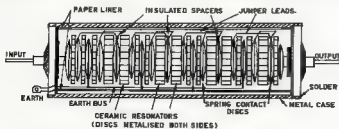

FIG. 1. CERAMIC LADDER FILTER - 17 ELEMENT.
A recent article in the R.S.G.B. "Bulletin" for July 1966 describes a transistor s.s.b. exciter using a ceramic disc filter with characteristics at the 6/60 db. points similar to the popular mechanical filters from U.S.A. and Japan. The particular filter used is a Brush-Clerite filter type TL-2D5A, which uses 17 ceramic disc elements arranged in a very compact filter as shown in Fig. 1. This ingenious filter is compatible with transistor equipment as far as both size and imped-
7. I hope Fig. 1 clarifies the situation.